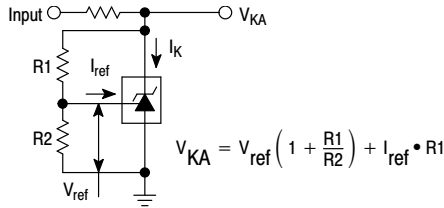

Figure 2. Test Circuit for $V_{KA} > V_{ref}$
9. The dynamic impedance Z_{KA} is defined as $|Z_{KA}| = \frac{\Delta V_{KA}}{\Delta I_K}$ When the device is programmed with two external resistors, R1 and R2, (refer to Figure 2) the total dynamic impedance of the circuit is defined as: $|Z_{KA}'| \approx |Z_{KA}| \left(1 + \frac{R1}{R2} \right)$